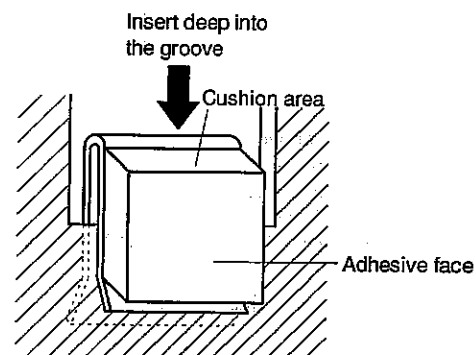

Fig. 6
- ④ Peel off the protective seal from the cushion area. The adhesive area is then exposed. Don't lay a table cloth on the table because the adhesive area may accidentally contact it. Also clean the surface of the table.
- ⑤ Stand the drawer up, and gently press it down to fix the adhesive face of each fixture firmly on the table. (See Fig. 6)